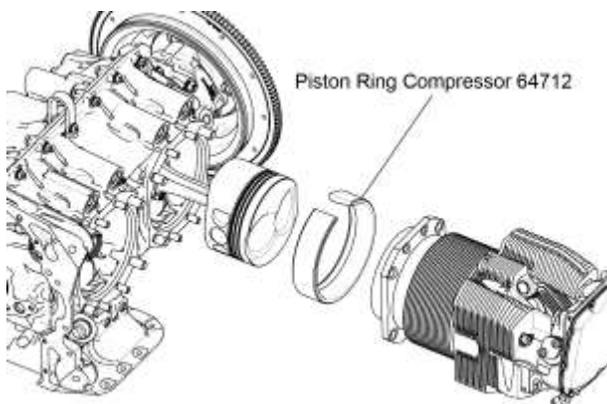

Figure 26
E. Use the Piston Ring Compressor (64712) to install the cylinders (Figure 26) as follows: